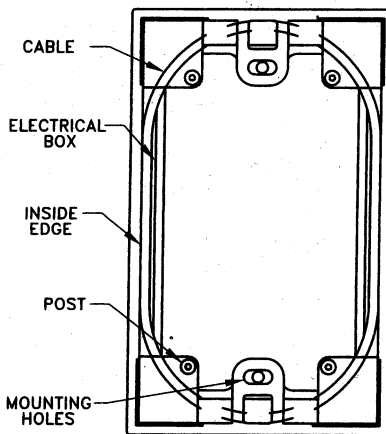

Figure 2
2. Store excess cable between inside edge and post of the cable manager as shown in Figure 2. Ensure that the cable does not interfere with the mounting holes.